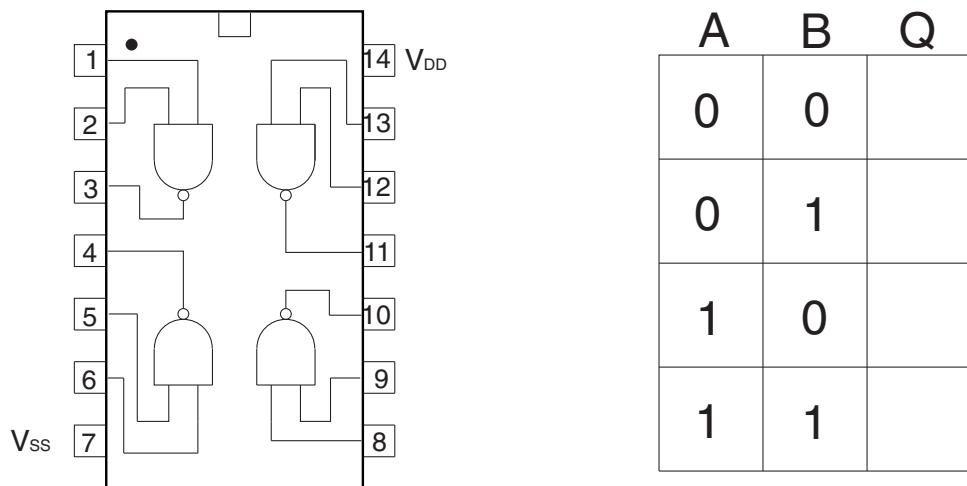

Fig. 9
Describe the logic IC shown in Fig. 9.
- (iii) Complete the truth table for one of the logic gates in Fig. 9.